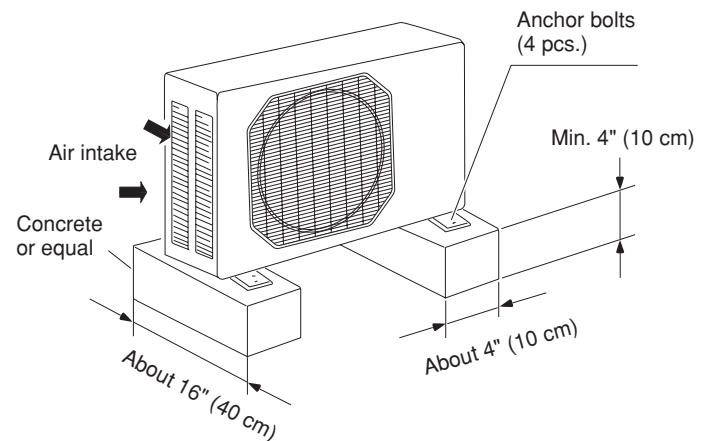

Fig. 5b
- provide a solid base (level concrete pad, concrete block, 4" x 1'4" (10 x 40 cm) beams or equal), a minimum of 4" (10 cm) above ground level to reduce humidity and protect the unit against possible water damage and decreased service life. (Fig. 5b)